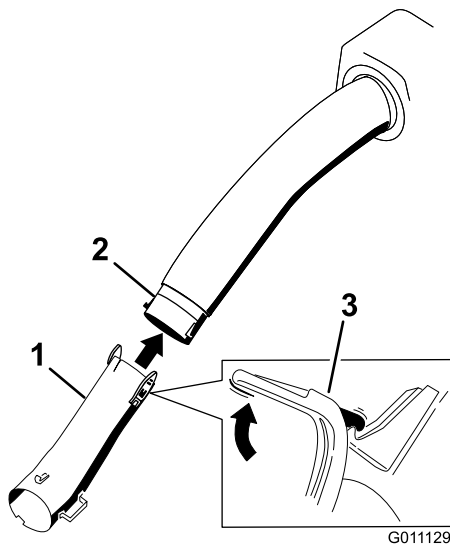

Figure 20
2. Install the lower tube into the middle tube so there is 63.5 mm (2-1/2 inches) of overlap (Figure 20).
13. Remove the hardware and the middle tube from the lower tube (Figure 20).
15. Install the lower tube into the middle tube and secure it with 3 bolts (#10 x 3/4 inches), 3 flat washers (7/32 inch), and 3 locknuts (#10) (Figure 20).